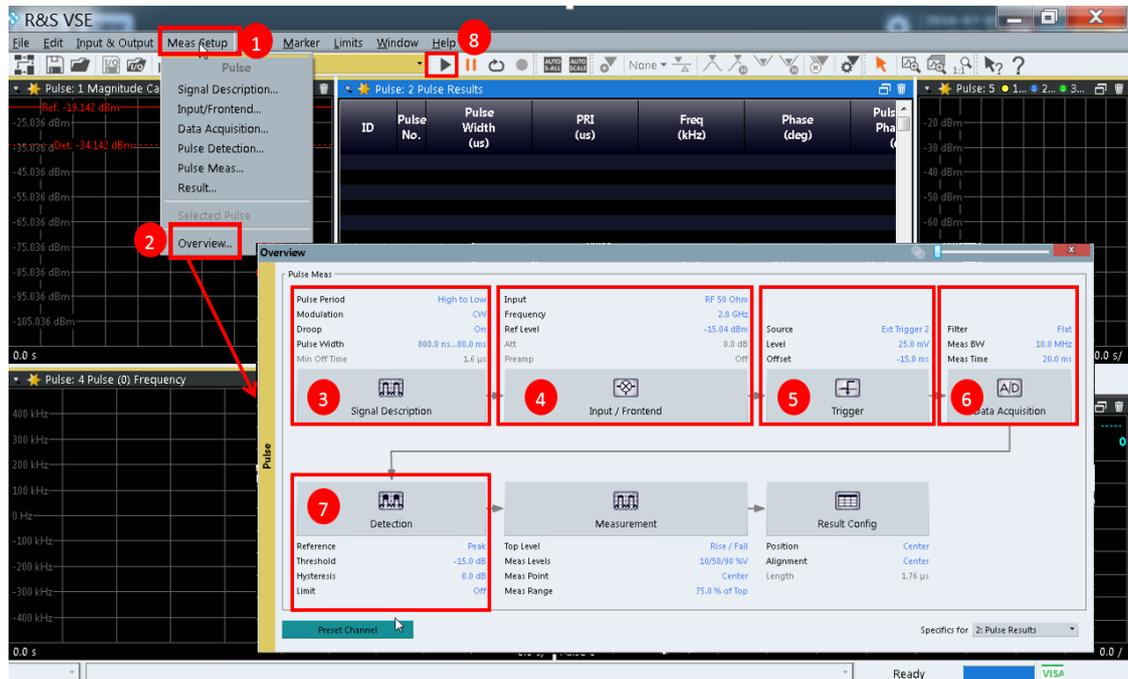

Figure 24: VSE-K6 Display
5. Select in the **[Overview]** window the **[Trigger]** block, Set the **[Source]** to **[Ext Trigger 3]** which refers to Channel 3 of the RTO as can be seen in Figure 24. Set the **[Level]** to a proper value (here 25 mV) and the **[Offset]** to a negative value (here -15 ms). Close the window.